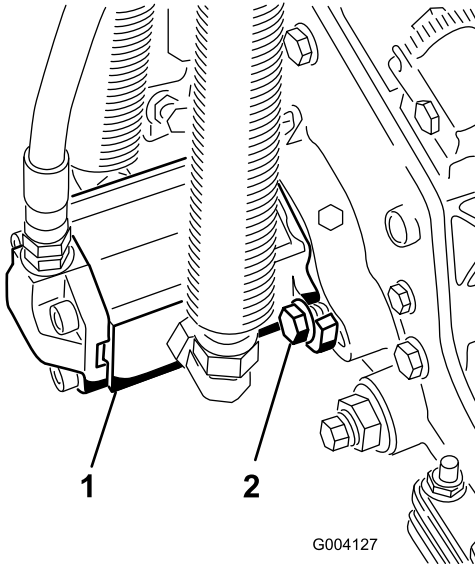

Figure 21
3. Install the motor by rotating it clockwise so that the motor flanges clear the bolts (Figure 21).